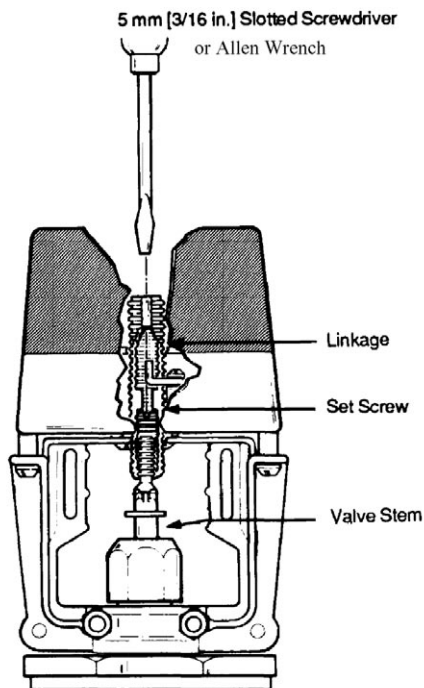

FIG. 6. — LOCKING ML6984A DRIVE SHAFT TO VALVE STEM
6. Depending on which type of set screw was used, with a 5 mm (3/16") Slotted screwdriver or 1/8"x 6" Allen wrench (included in the plastic bag), **tighten the set screw to lock valve stem in place** (Fig. 6).